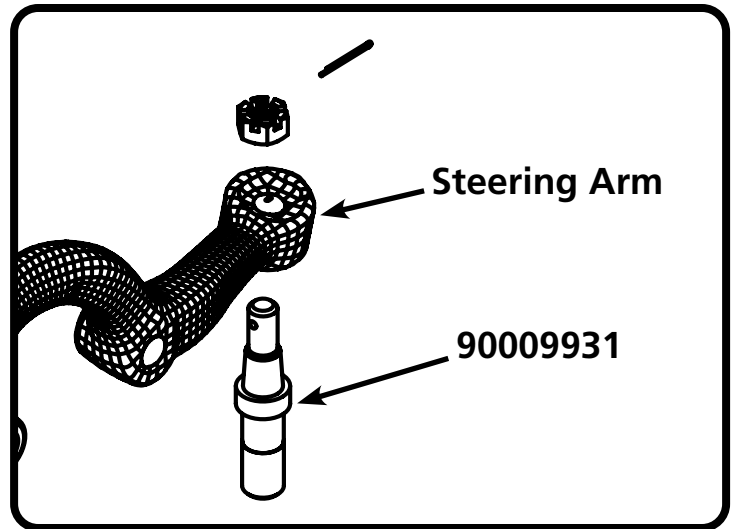

Figure 23
**29.** Insert the tapered end of the tie rod stud into the taper of the steering arm (Figure 23). Thread the 7/16" castle nut onto the stud. Torque to **35 ft-lbs**. If necessary, tighten to align the cotter pin hole with slot on castle nut. Install the cotter pin.